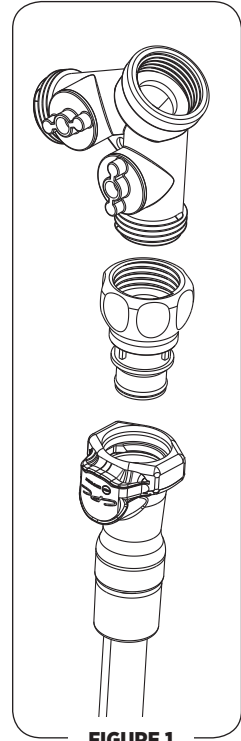

FIGURE 1
5. Screw the quick disconnect insert (Item #1437) to the Y-connector (Item #1419). (See Figure 1.)
8. Connect the hose assembly with quick disconnect (Item #1448) to the quick disconnect insert (Item #1437). You should hear a definitive click to indicate that the hose is properly secured to the faucet (See Figure 1).